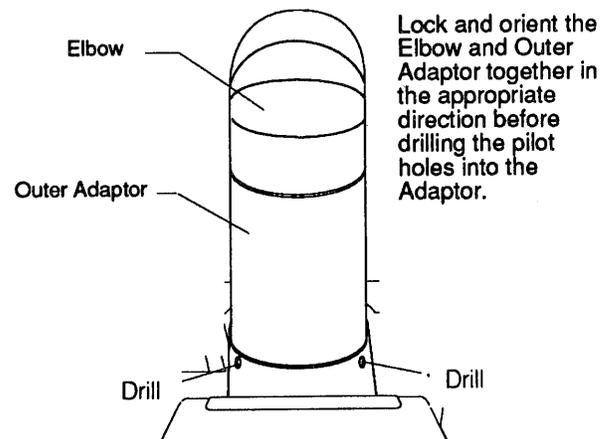

Figure 14. Pre-drill pilot holes into the Outer Adaptor pipe.
- Insert the Outer Adaptor Pipe, seam facing back, into the flue collar. If applicable, insert and fully engage an elbow into the starter pipe and rotate the pipe so that the elbow is facing the appropriate direction for connection to the vent termination. Fig. 14.